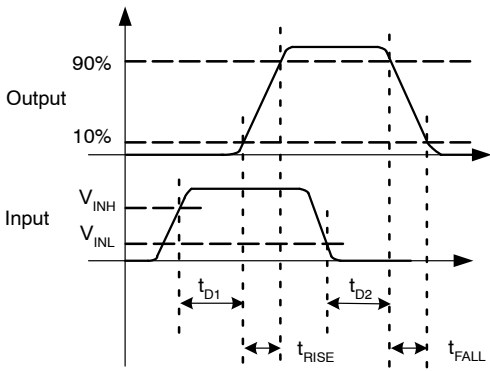
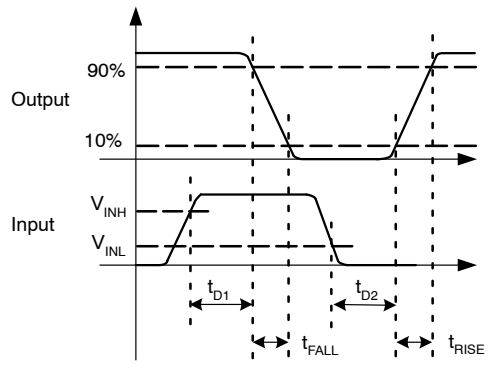
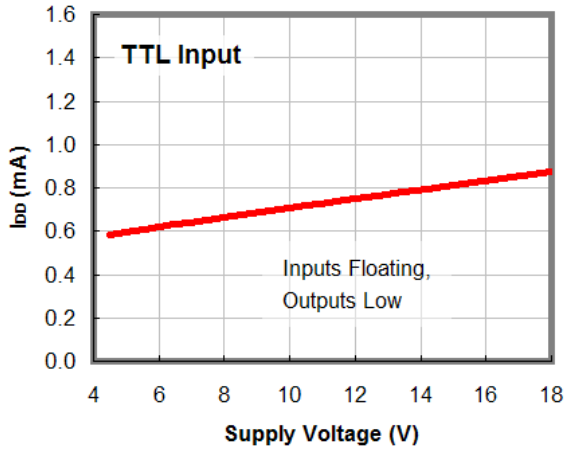
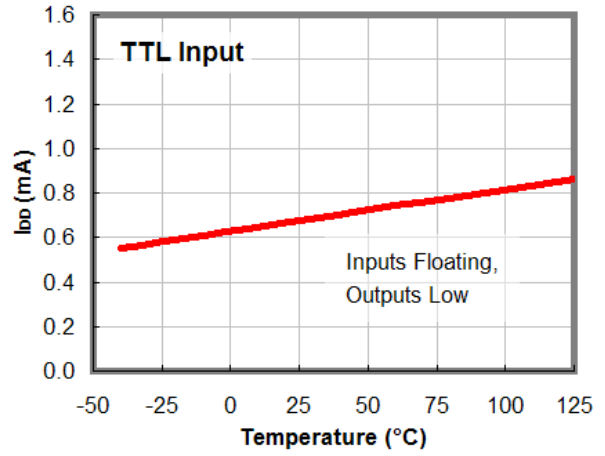

Figure 6. Non-Inverting Timing Diagram
Figure 7. Inverting Timing Diagram
Figure 8.  $I_{DD}$  (Static) vs. Supply Voltage (Note 10)
Figure 9.  $I_{DD}$  (Static) vs. Temperature (Note 10)
9. See Timing Diagrams of Figure 6 and Figure 7.
10. For any inverting inputs pulled low, non-inverting inputs pulled high, or outputs driven high, static  $I_{DD}$  increases by the current flowing through the corresponding pull-up/down resistor shown in Figure 6 and Figure 7.
In the  $I_{DD}$  (static) typical performance characteristics shown in Figure 8 and Figure 9, each curve is produced with both inputs floating and both outputs LOW to indicate the lowest static  $I_{DD}$  current. For other states, additional current flows through the 100 kΩ resistors on the inputs and outputs shown in the block diagram of each part (see Figure 6 and Figure 7). In these cases, the actual static  $I_{DD}$  current is the value obtained from the curves plus this additional current.